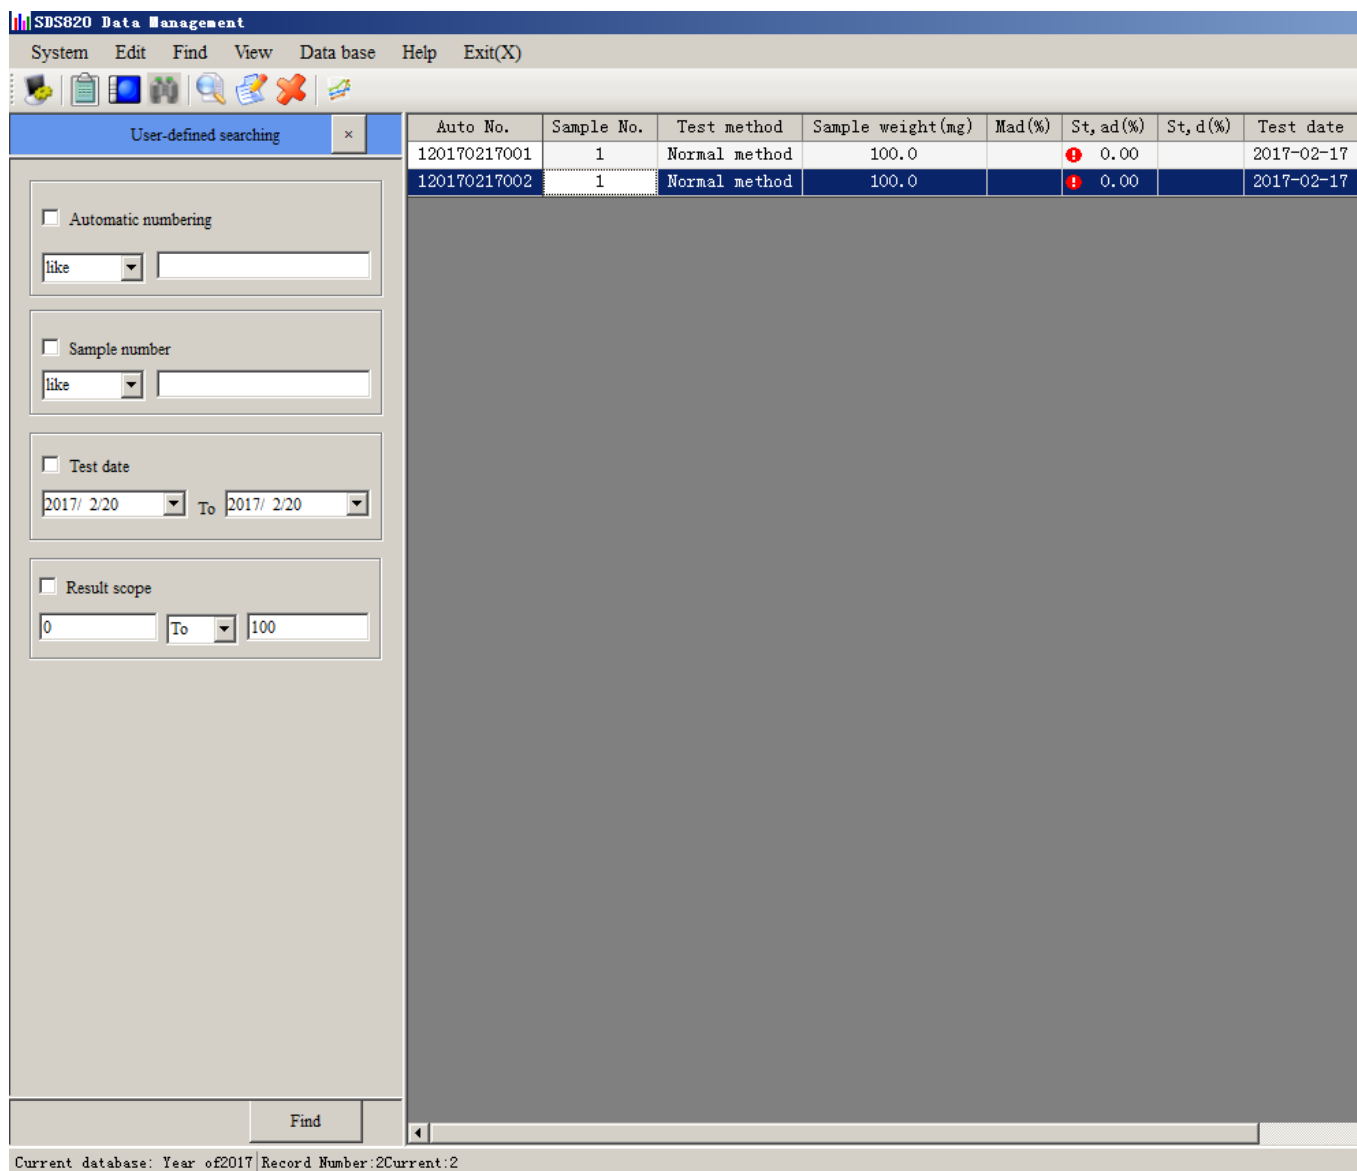

Fig 5-3-2
- User-defined search: Click on this option, the window as shown in figure 5-3-2 will pop up.